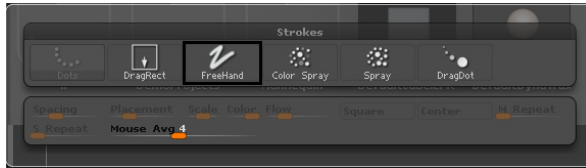
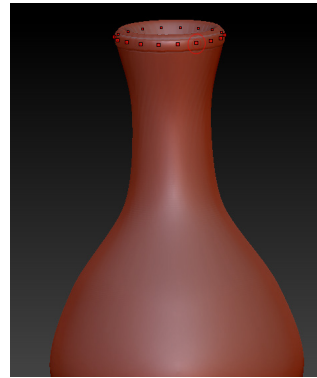

Figure 3-84 The *FreeHand* stroke chosen from the flyout
Figure 3-85 Pattern created on the neck area
6. Choose the Current Stroke button from the left shelf; a flyout containing different types of strokes is displayed. Choose the **FreeHand** stroke from this flyout, refer to Figure 3-84. Create a pattern on the top of the neck area of the *flower vase* using the **Layer** brush, as shown in Figure 3-85.